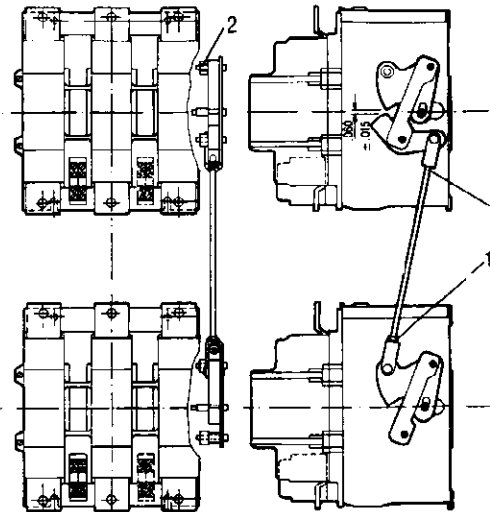

Fig. 7
ADJUSTMENT (Fig. 7)
1. Tighten item 1 on lowest lever. (Bushing in U bracket will rotate.)
3. Adjust hex bushing (item 2) to obtain $.060 \pm .015$ between cams as shown in Figure 7.